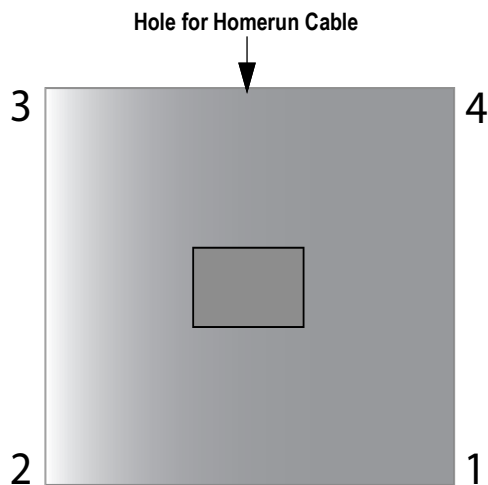

Figure 4-3. Corner Numbering (Top View)
1. Remove the summing board cover and identify the correct load cell terminal corresponding to each corner. See Figure 4-3 on page 15 for scale deck corner numbering.
The four load cells are each wired to their respective terminals in the summing board according to the corner numbering system shown in Figure 4-3 and the color code in Table 4-3. Feed the red cable through the hole on the side of the frame and wire to the summing board.